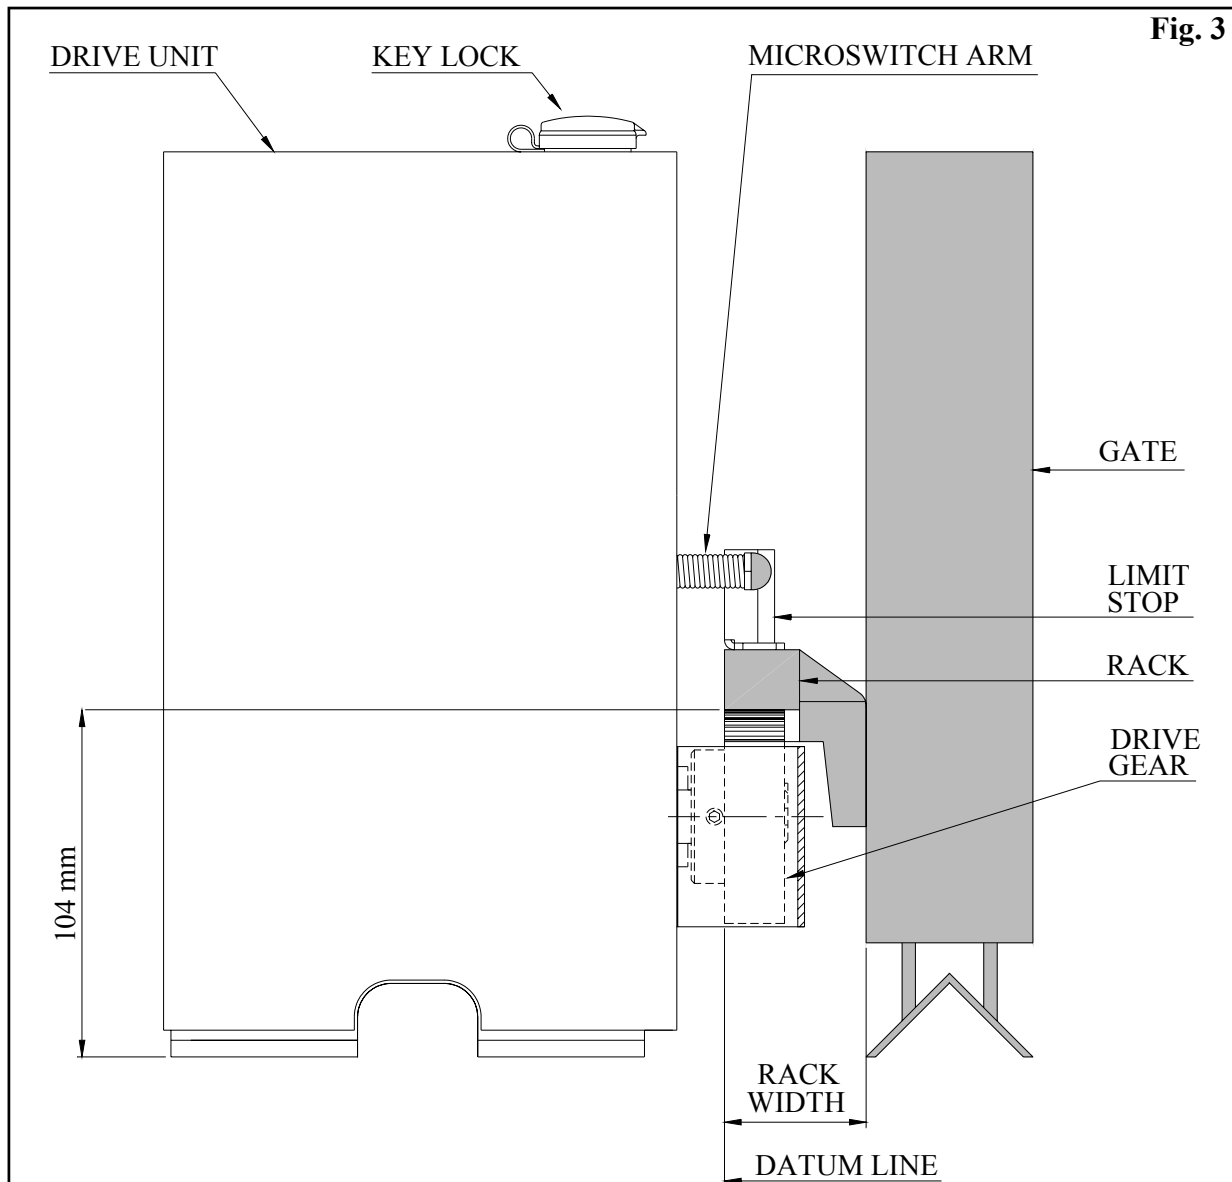

Fig. 3
1. Prior to making the mounting of the drive unit you must determine the distance from the gate to the outer edge of the rack (ie the rack width) to the datum line (see Fig. 3). For ATA plastic racking (order code 90167) the rack width is 40 mm. For ATA steel rack (order code 90235) the rack width is 37 mm.
1. Manually open the gate to the opening position and mark this on the gate rack under the micro-switch arm (Fig 3).
2. Manually close the gate to the closing position and mark this on the gate rack under the micro-switch arm (Fig 3).